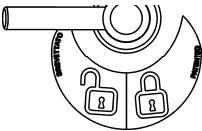

Fig. 1.8.3.1
- with the handle as shown in figure 1.8.3.1, the microswitch is shut off, the feed is free and the machine will not start;
- with the handle as shown in figure 1.8.3.2, the microswitch is turned on, the feed is locked and the machine works.